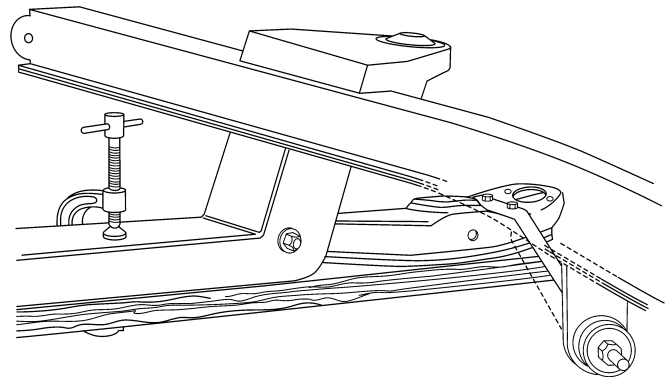

Figure 7
9. Install the strut rod onto the control arm. Now, assemble onto the strut rod the large rubber bushings, including the cupped washers, and the strut mount plate. Be certain to fully tighten the nut on the strut rod to its' fully seated position. (See Figure 7) There are two rubber bushing sets available; the standard replacement and the improved set. We recommend the improved set, as it provides more stability to the front suspension. The Pinto and Mustang strut rods are different lengths. We recommend the use of Pinto strut rods, as they are bent less than the Mustang strut rods. You will find that with either strut rod the strut rod plate does not line up with the bottom of the frame rail. The strut rod must be heated in the elbow area and bent outward. The rod is bent outward until the strut mounting plate lines up to the frame rail. You will find that because the Pinto strut rod is initially bent less and requires much less bending. The strut rod will act as an alignment fixture while you tack weld the mount plate in place, then tack weld the gusset in place. Remove the strut rod, bushings, and arm, and finish welding to the frame and each other.